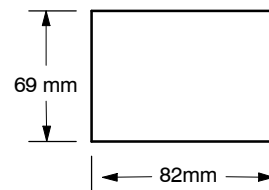

Figure 2-4 Dimensions for Cutting a Hole in the Mounting Surface of the TD 100C
- Cut a 69 mm x 82 mm hole in the mounting surface (DIN 43700). See Figure 2-4.